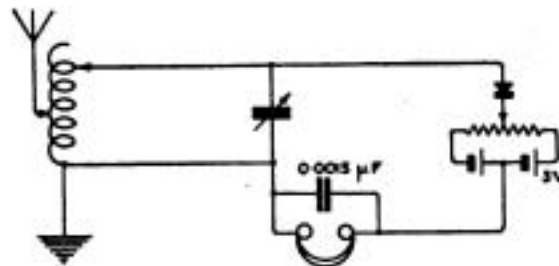

Fig. 3.
H.A. (Barnsley).—(1) and (2). There is an initial licensing fee and an annual fee. It is not necessary to forward the license each year for renewal, provided the fee is paid.
(3) POZ is the German station at Nauen. MGZ is a P. & O. vessel, the *Khiva*, but possibly the MGZ you have heard is transmitted by Nauen and means Mean Greenwich Time. You must not expect to find up-to-date information in your Year Book, which is two years old.
(4) Yes, apparently C.W.
C.R.R. (Clacton).—(1) Connect apparatus as per diagram: Fig. 3.